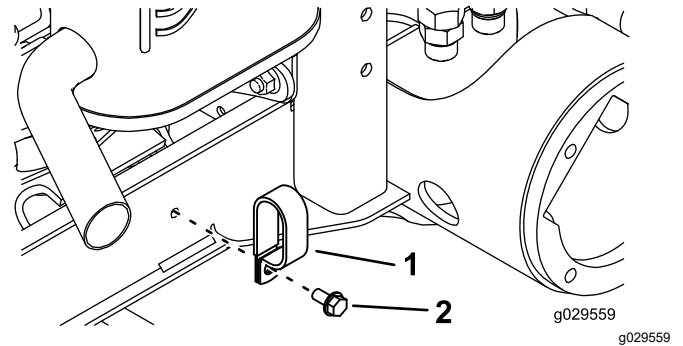

Figure 17
4. Remove the bolt securing the hose clamp to the frame channel on the right side of the machine (Figure 17).